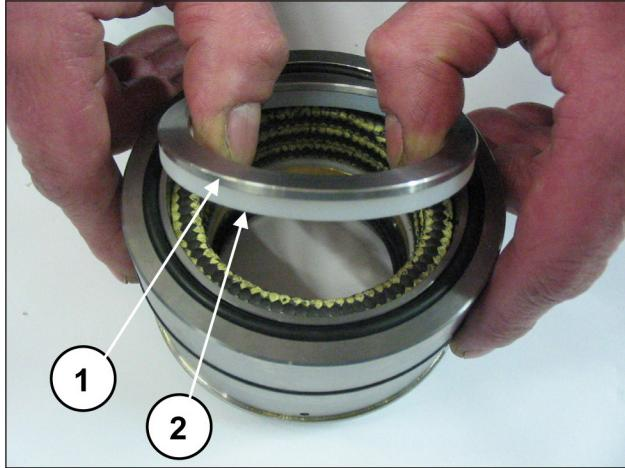
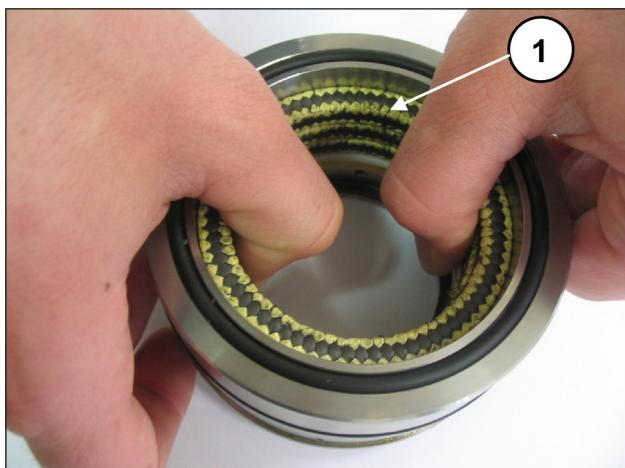

Fig. 191
Fig. 192
Separate the seal support from the liner, remove the spring ring and scraper ring (pos. ①②, Fig. 191) to access the pressure seals (pos. ③, Fig. 192).